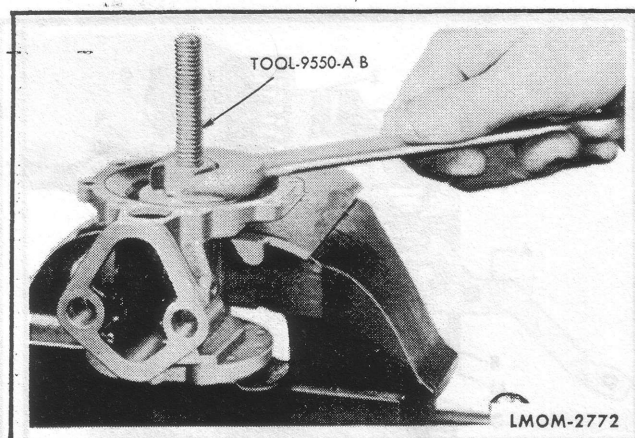

Fig. 56—Remove Diaphragm Rod Seals.
13. Use Diaphragm Seal Remover Tool to remove the vacuum and fuel diaphragm rod seals from the main body. See figure 56.